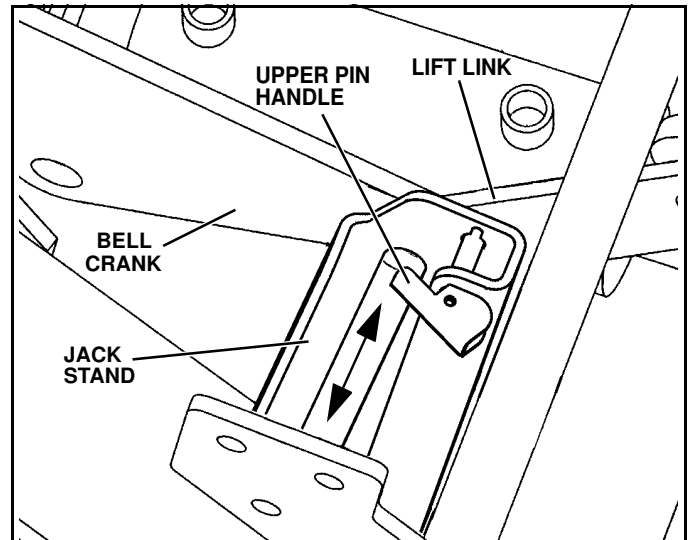

Figure 1-37
7. Disengage lower jack stand pin by pulling on handle. Lower the jack stand and engage the top pin by pushing on the handle. Make sure pin is engaged in hole by rotating jack stand back and forth (See Figure 1-37)